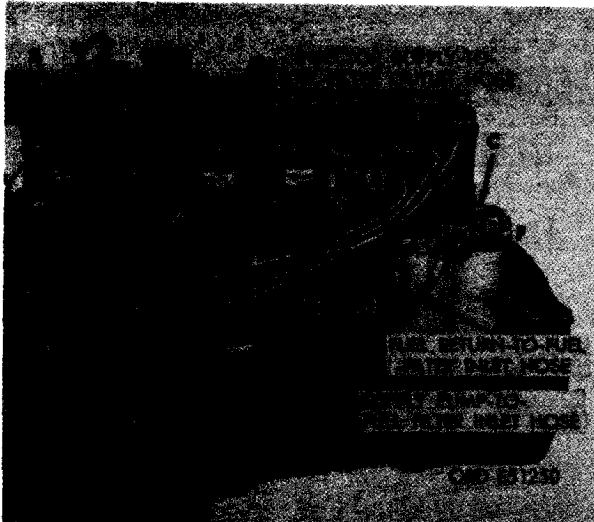

FIGURE 512. CONNECTING FUEL HOSES (EARLY MODEL ENGINES).
- (2) Figure 512. (A) Connect fixed end of 25- inch long fuel supply pump-to-fuel filter inlet hose in the fuel filter inlet elbow. (B) Connect swivel end to fuel supply pump outlet 45 degree elbow. (C) Connect fixed end of injector supply-to-fuel filter outlet hose to 90 degree elbow in fuel filter outlet. (D) Connect the swivel end to the connector in the fuel injection pump hydraulic head. (E) Connect fixed end of fuel return-to-fuel filter inlet hose to overflow valve in injection pump hydraulic head. (F) Connect the swivel end to the fuel filter overflow return tee. (G) Install cushioned clamp over all three fuel hoses. (H) Install cushioned clamp on fuel injection pump bracket stud and secure with one 1/4- inch lock washer and 1/4- inch plain nut.